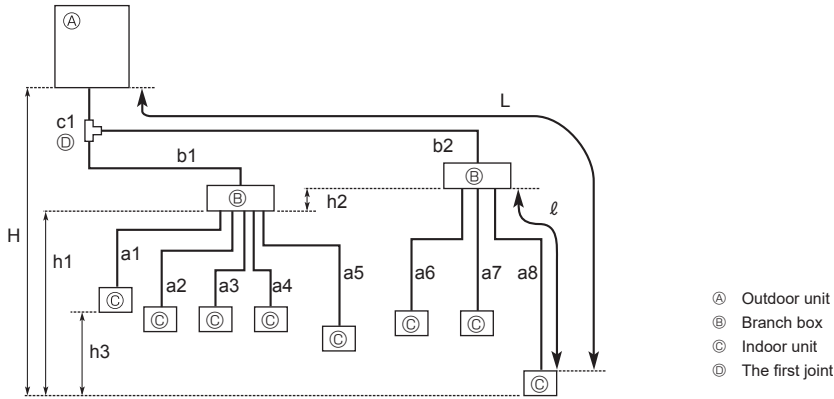

Fig. 4-2
4.2.2. Connection with Branch box (Fig. 4-2)